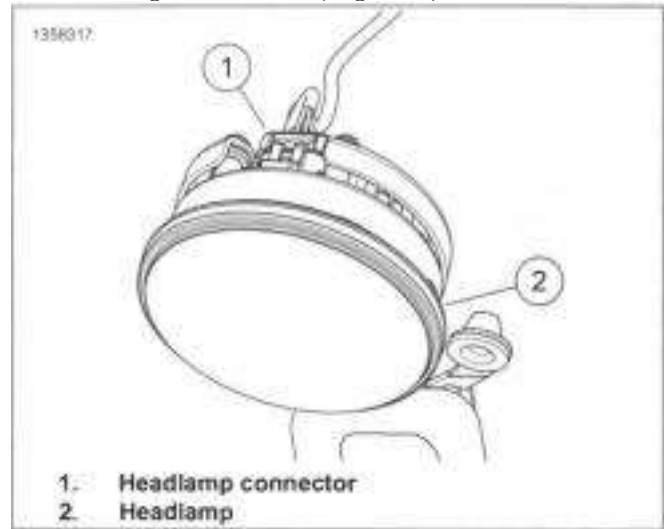

Figure 7-46. Headlamp Connector
2. See Figure 7-46. Disconnect headlamp connector (1).